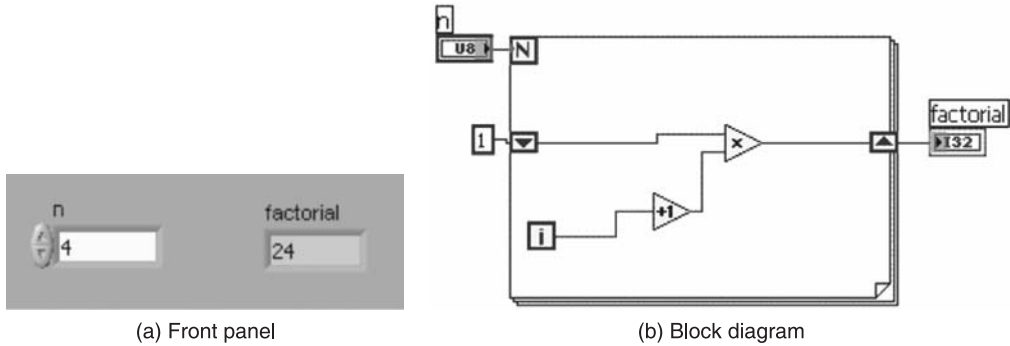

Figure P4.1
**Solution** The front panel has the number and its factorial, while the block diagram contains the codes to solve the problem as shown in Figures P4.1(a) and P4.1(b).